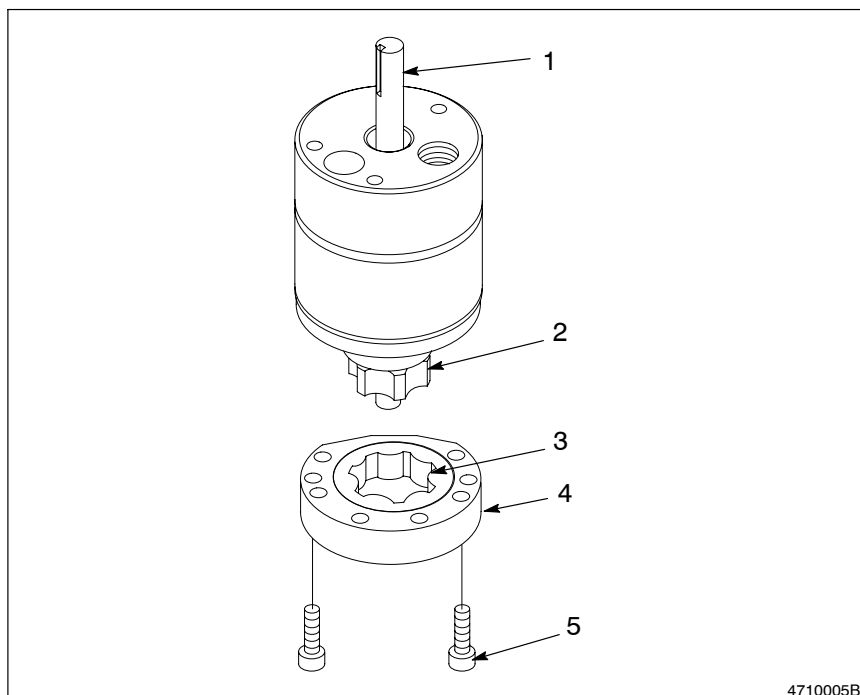

Fig. 7-25 Removing the Gerotor Assembly and Pump Shaft
9. See Figure 7-25. Remove the two socket-head screws (5) from the gerotor retainer (4). Remove the gerotor retainer from the pump body.
10. Remove the outer gerotor gear (3) from the gerotor retainer. Discard the outer gerotor gear.
11. Carefully remove the pump shaft (1), complete with the inner gerotor gear (2) and Woodruff key, from the pump body. Discard the inner gerotor gear, the pump shaft, and the Woodruff key.